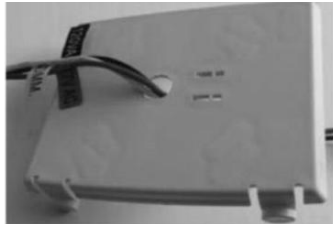

FIGURE 1
- A) Feed fixture leads through the backplate and connect to AC power supply. (Figure 1)